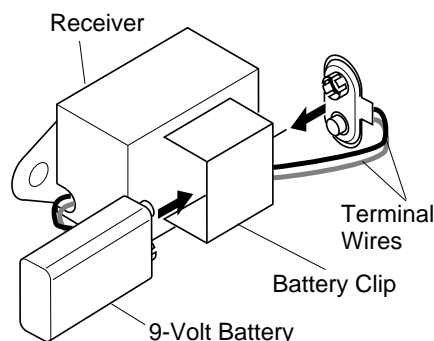

Figure 28 - Attaching Battery to Receiver
4. Locate the battery clip mounted on the back of the receiver (see Figure 28).
6. Attach the terminal wires to the battery (see Figure 28).